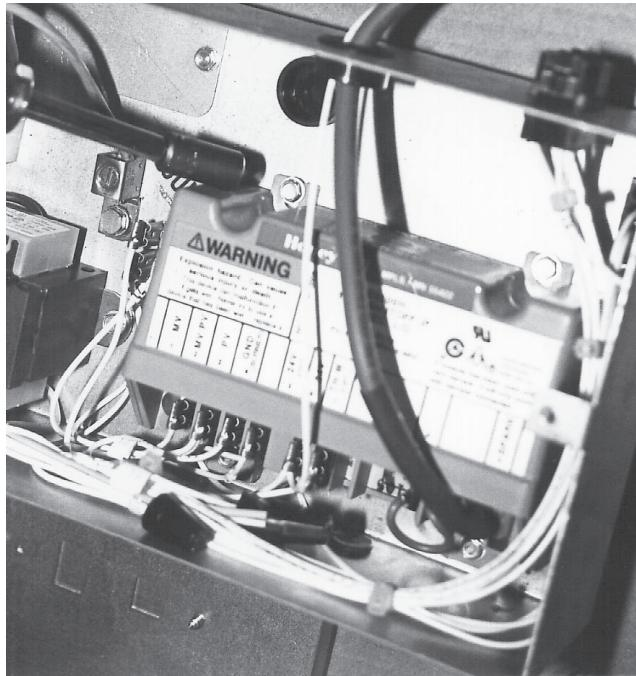

Fig. 83
4. With a  $\frac{1}{4}$ " socket, remove (4) screws holding the module to the supply box. (Fig. 83)